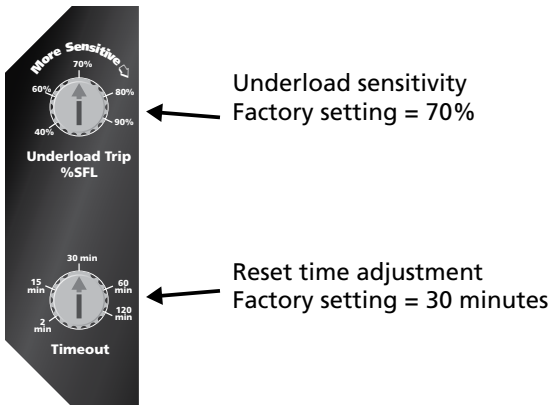

Figure 4: Time-out and Trip Sensitivity Settings
7. Set the time-out adjustment to the desired position. The factory setting is 30 minutes (see Figure 4).